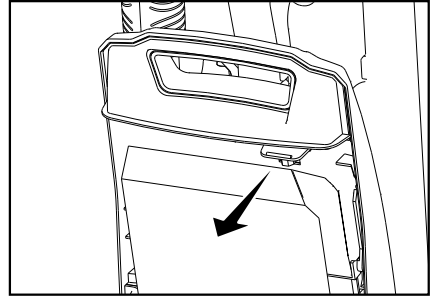
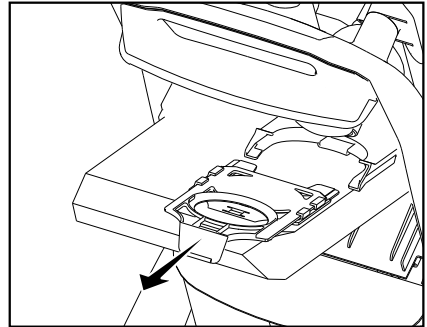

Fig. 1
Fig. 2
- Remove the used vacuum bag by pulling the blue bag collar tab away from the vacuum (Fig. 1). Slide the used bag out of the holder which automatically seals the bag (Fig 2). Discard the used bag.